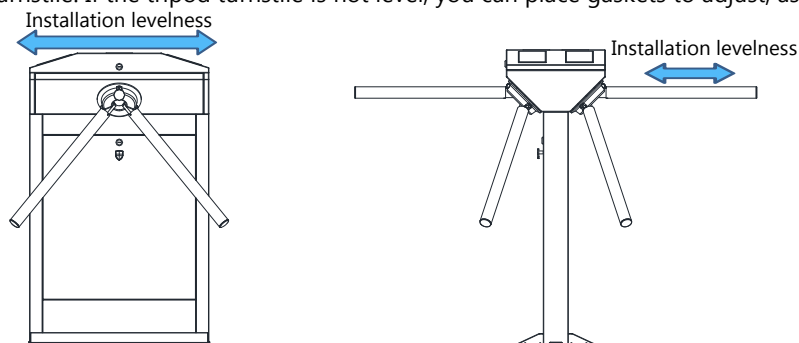

Figure 3-5
3. Put the turnstile on the mounting plate and tighten the screws. Apply screw securing glue before use and put gaskets on the screws to adjust the direction of the turnstile. If the tripod turnstile is not level, you can place gaskets to adjust, as shown in figure 3-5.